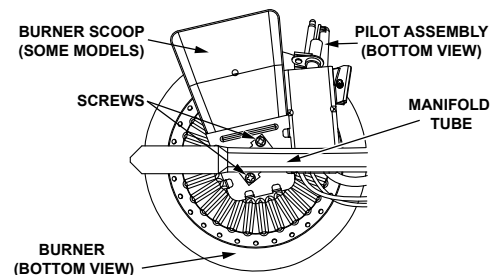

FIGURE 30.
1. Take off the burner by removing the two (2) screws located underneath the burner.
2. Check the burner to see if it is dirty or clogged. The burner may be cleaned with soap and hot water (Figure 30). **IMPORTANT:** DO NOT remove the orifice.
2. Remove the burner to access the pilot/thermopile assembly. Remove and keep the screws securing the burner to the manifold (Figure 30). **IMPORTANT:** DO NOT remove the orifice.
8. Using the pilot screw removed earlier, attach the new pilot/thermopile assembly. Reattach the burner to the manifold using the screws removed earlier. NOTE: If your burner includes a burner scoop, make sure that it is oriented to the pilot side of the manifold tube (Figure 30).